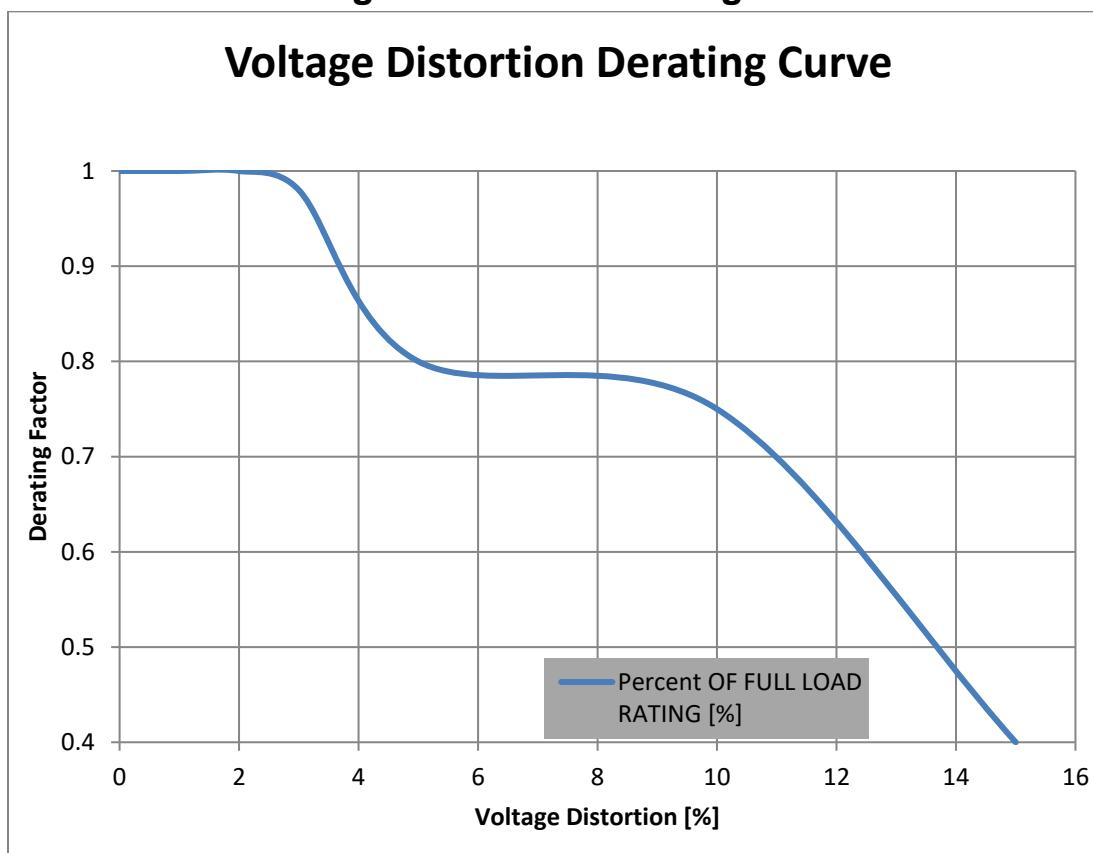

Figure 3-6: Voltage Distortion Derating Curve
- Voltage Distortion:** See Figure 3-6: Voltage Distortion Derating Curve (p14) for voltage distortion derating curve.